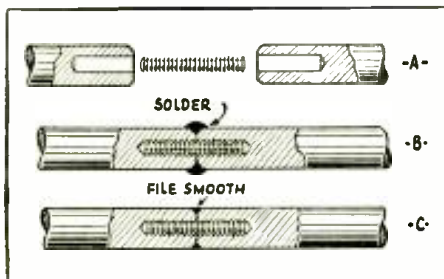

Fig. 1
**I** HAPPENED across a job with a thick panel and a line switch so located that it took about a 1 $\frac{3}{4}$  in. shaft overall to make the proper replacement. And the following kink came back to me; it is used in the blacksmith game. Take an old shaft from a condenser or an old rheostat, brass is best, and bore a  $\frac{1}{2}$ -in. deep hole with a  $\frac{1}{8}$ -in. drill in the switch shaft and addition, as shown in Fig. 1. Get a screw about  $\frac{3}{4}$ -in. long that will just slip in. Put one shaft in a vise and half fill it with solder; then dip the screw in soldering paste and shove it into the shaft. Do the same with the other shaft and press them together, keeping them hot. When the solder sets, hold them at right angles in the vise and fill the space between them with solder all the way around. When cool, file down even and you have a job that will hold. About 30 minutes work saved me a trip to town, and the expense involved.